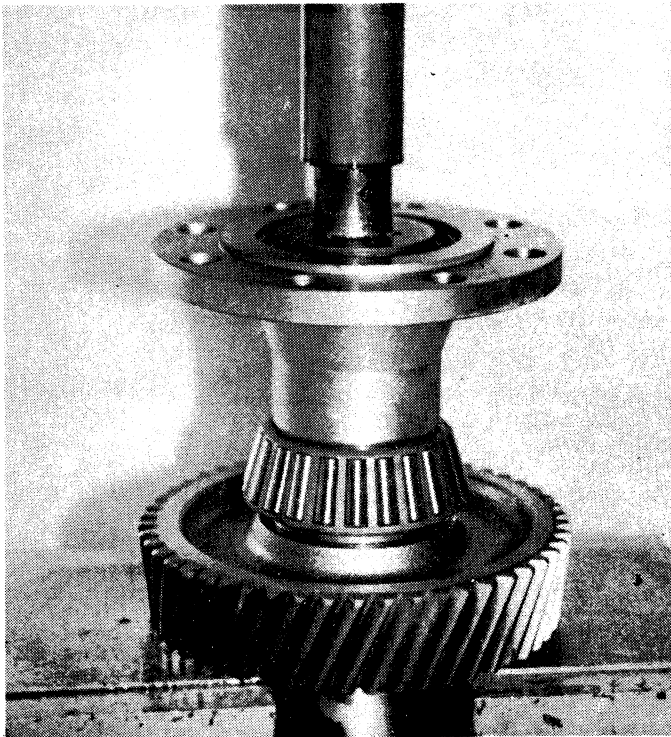

Figure 8-9. Pressing output shaft from rear bearing inner race and pinion.
- a) Install the output flange (12-2, 24). See Figure 8-9.